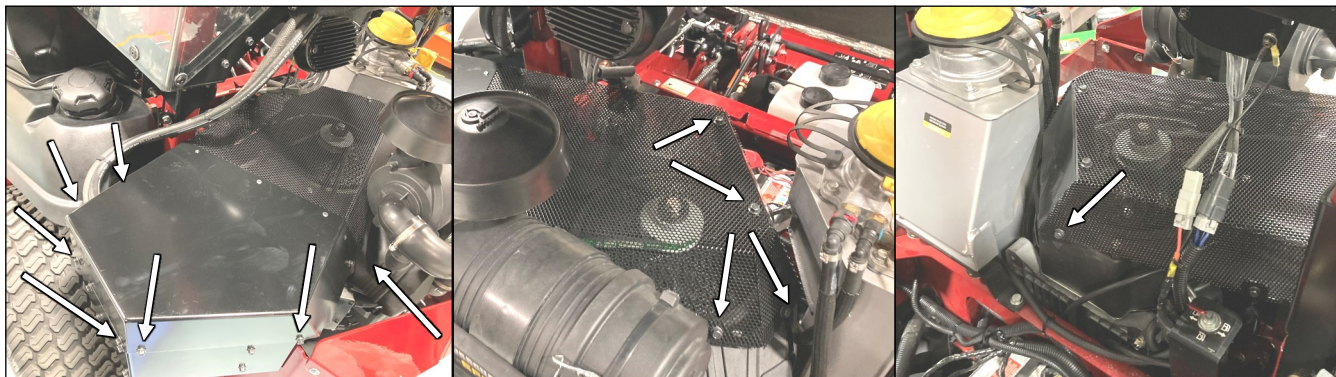

Fig. 9.3 (Flywheel shroud)
- 9.3 See fig. 9.3. Make sure all wires and hoses are secured, and nothing will contact any moving parts, then place the flywheel shroud on top of the A/C compressor assembly. Secure with 1/4" x 5/8" lg. screws and tighten snug,